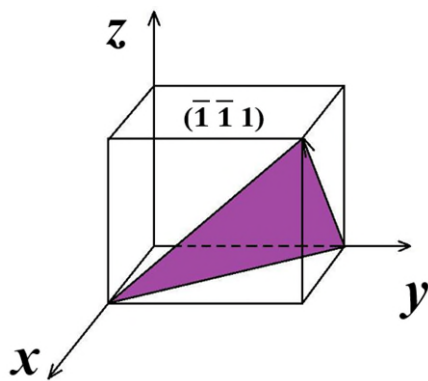

Figure 2
- (b) Draw the 3 slip directions on the FCC  $(\bar{1}\bar{1}1)$  plane directly in Figure 2. Also, write down the Miller Indices for the 3 slip directions. Use the correct brackets for the slip directions.